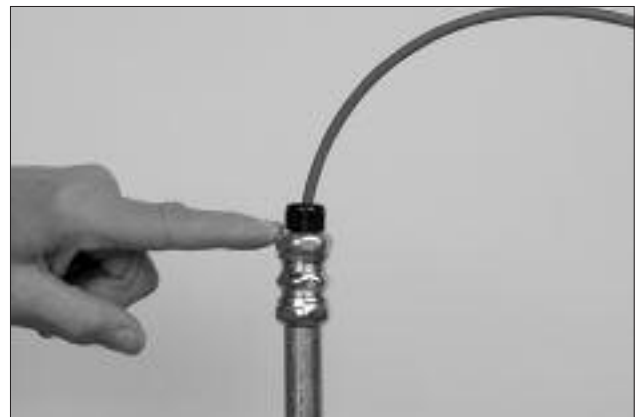

FIGURE 11
11. Tighten nut on strain relief on top of conduit riser. See Figure 11.